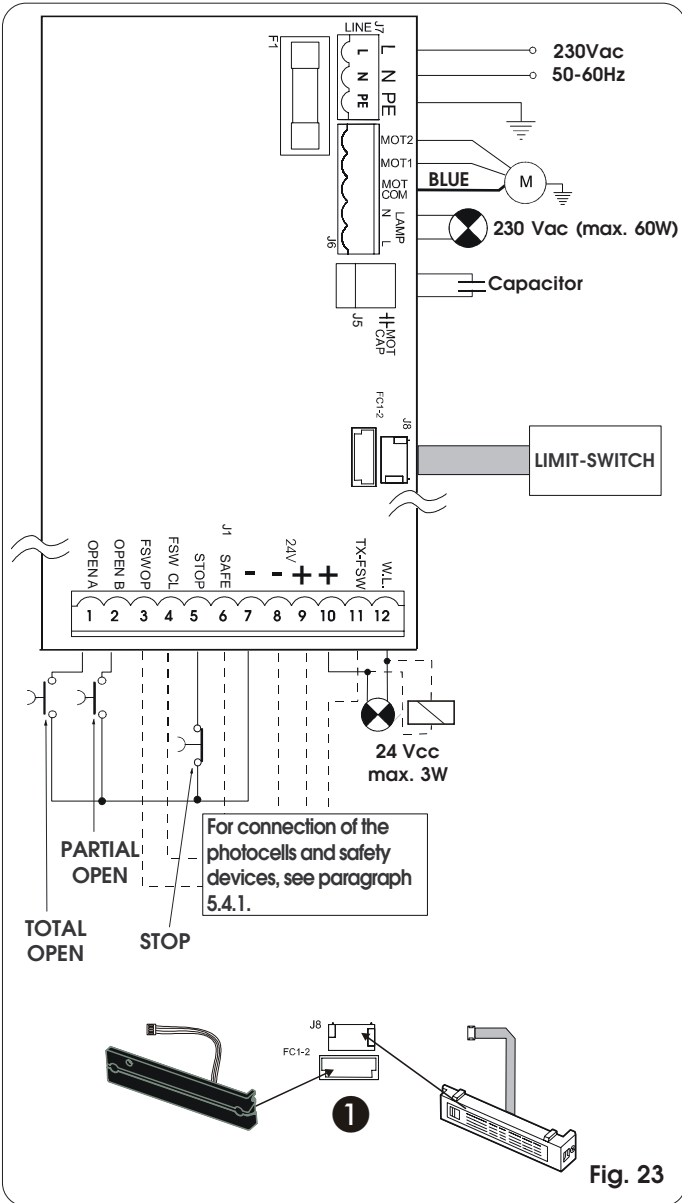

Fig. 23
5.4.2. J7 Terminal board - Power supply (fig. 23)
5.4.3. J6 Terminal board - Motors and flashing lamp (fig. 23)
5.4.4. J1 Terminal board - Accessories (fig. 23)
Quick-fit connector for connecting the limit -switch. For connecting both the MLS limit-switch and the inductive limit-switch (fig. 23 ref. 1) to the equipment.